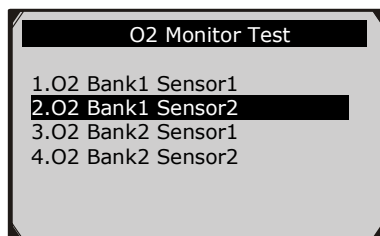

Figure 5.24
- 3) Use the **UP/DOWN** scroll button to select O2 sensor from **O2 Monitor Test** menu and press **OK** button. (Figure 5.24)